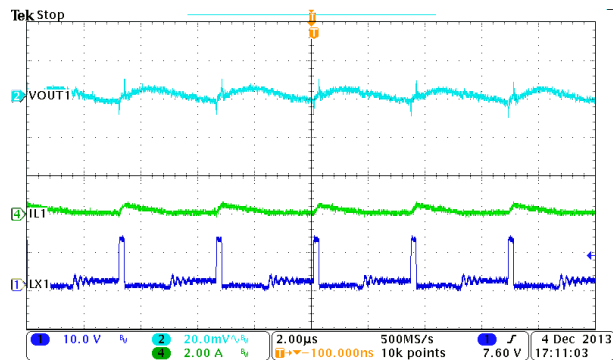
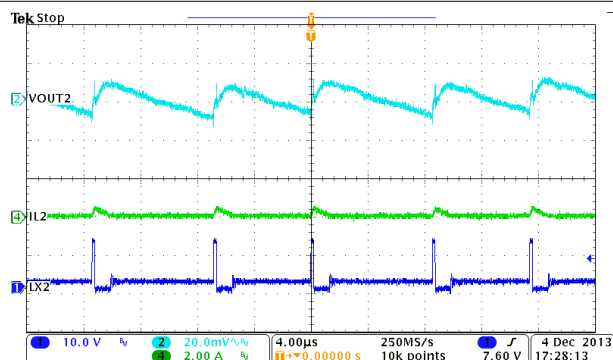
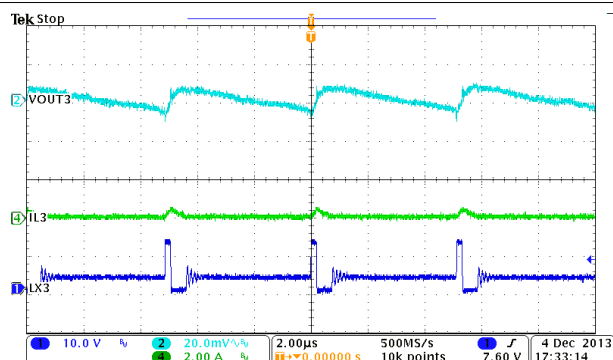

Figure 9-8. Buck1, Steady State Operation at Light Load
Figure 9-10. Buck2, Steady State Operation at Light Load
Figure 9-12. Buck3, Steady State Operation at Light Load
The device is designed to operate in high-efficiency PSM under light load conditions. Pulse skipping is initiated when the switch current falls to 0.23 A. During pulse skipping, the low-side FET is turned off. The switching node (LX) waveform takes on the characteristics of DCM operation and the apparent switching frequency decreases as shown in Figure 9-8, Figure 9-10, and Figure 9-12.